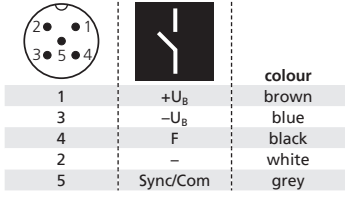

Fig. 2: Pin assignment with view onto sensor plug and colour coding of the microsonic connection cable
- Connect a connection cable to the M12 device plug, see Fig. 2.